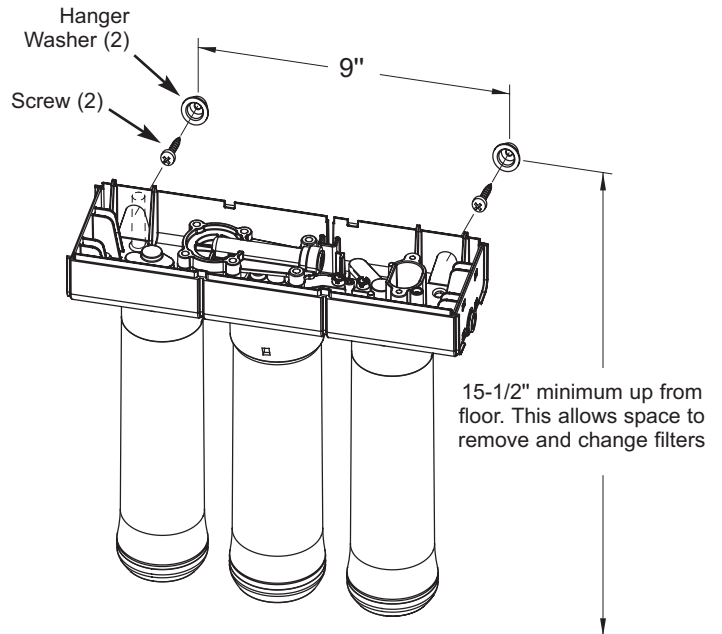

FIG. 11
The Reverse Osmosis Filter Assembly is mounted on hanger washers. See Fig 11. The hanger washers allow you to lift the filter assembly from the washers without any hardware removal. When planning your installation, you need to leave room for changing filters.
2. Locate mounting slots on back inside of the assembly. See Fig 11.
3. Hold the assembly up to the wall surface and mark locations for the hanger washers. See Fig 11. Mount the unit high enough to allow room to change filters without taking the unit off of the wall.